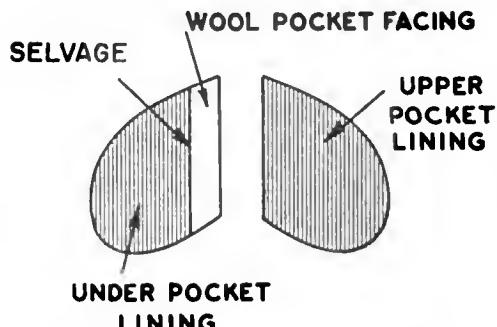

Fig. 130. Welt pocket for a coat.
- C. On a welt pocket for a coat, the wool pocket facing may use the selvage to eliminate a bulky scam (Fig. 130).